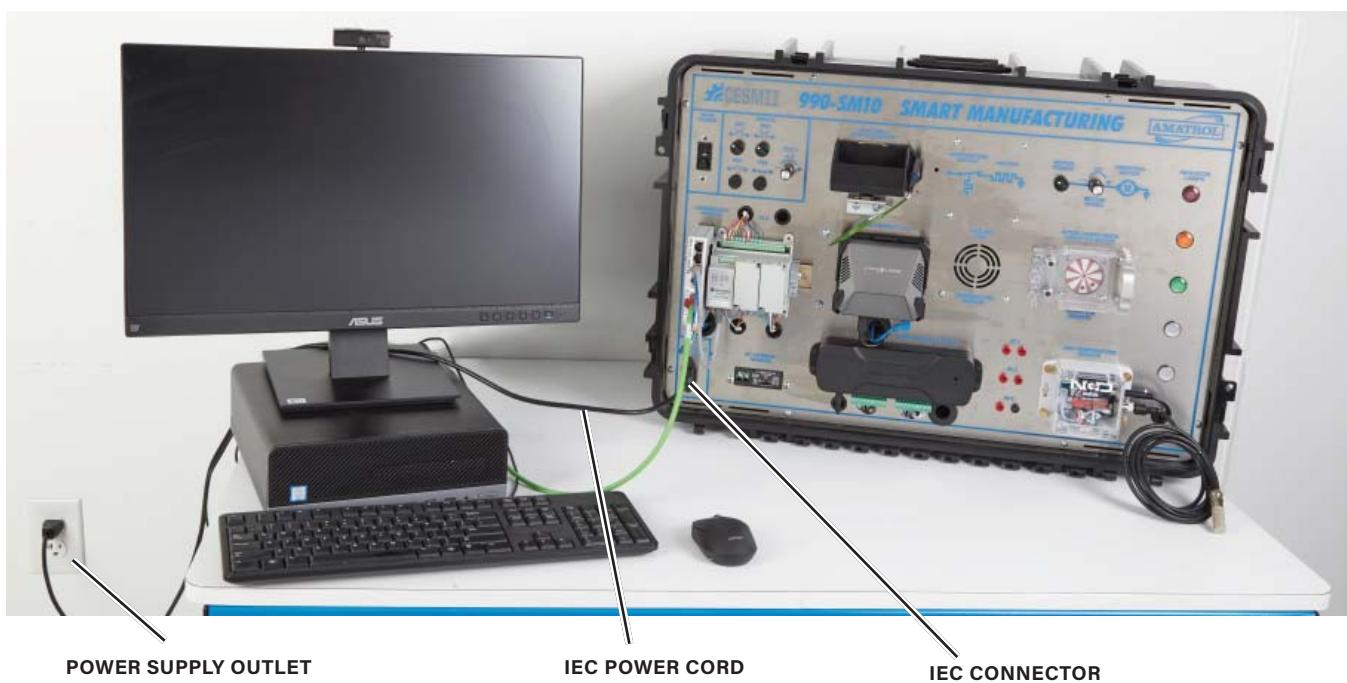

Figure 8-2. IEC Power Cord Plugged into AC In Port and Power Supply Outlet
- Connect the IEC power cord to the IEC connection on the workstation and to an AC wall outlet, as shown in figure 8-2.